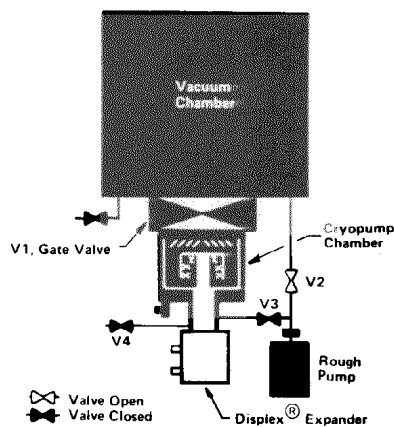

Figure 13 Evacuate the Vacuum Chamber and Cool Down the Cryopump
2. Turn on the cryopump by starting the compressor. The compressor's power switch will light. Close valve V3 between the vacuum enclosure and the roughing pump to isolate the roughing pump from the vacuum enclosure. See Figure 13.